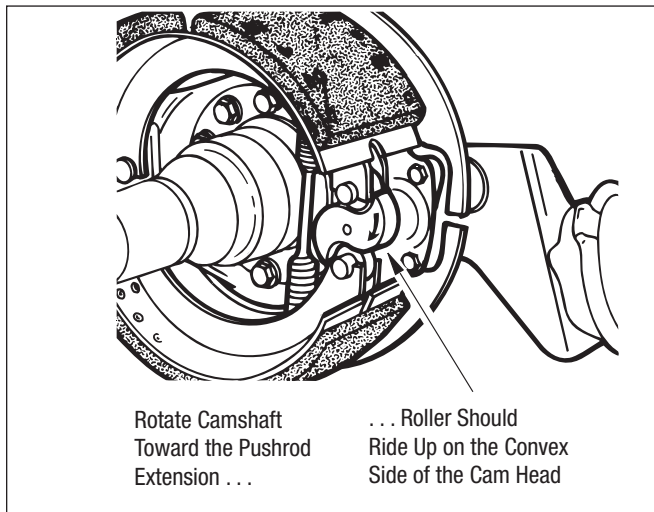

Figure 53 – Camshaft Installation
2. To ensure that camshaft being installed is correct for the application, rotate the camshaft in the direction of air chamber pushrod extension and check that the roller starts to ride up on the convex side of the cam head. Refer to Figure 53.